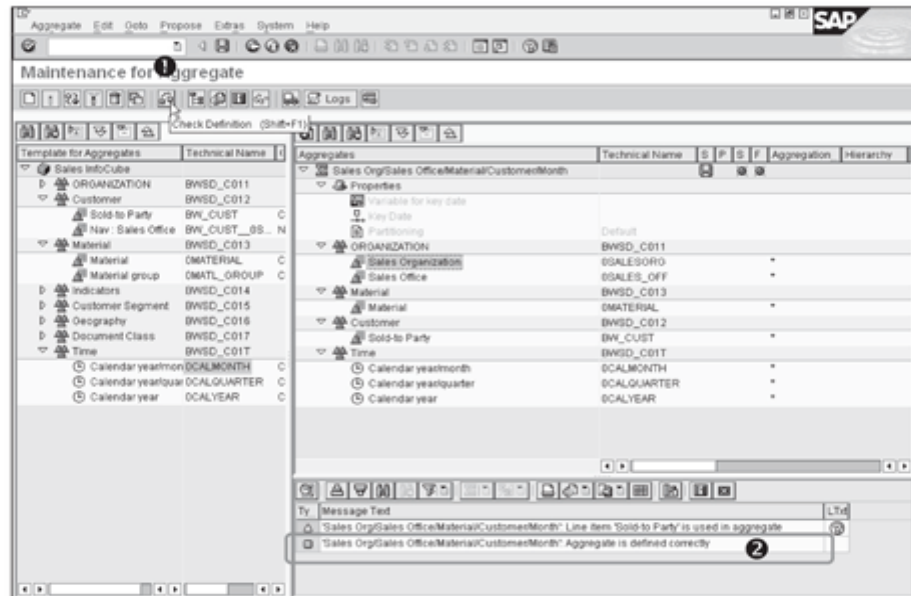

Figure 14.24 Check Aggregate Definition
Having defined the aggregate, you now need to check the definition of the aggregate for accuracy. Click on the Check icon (❶ of Figure 14.24).